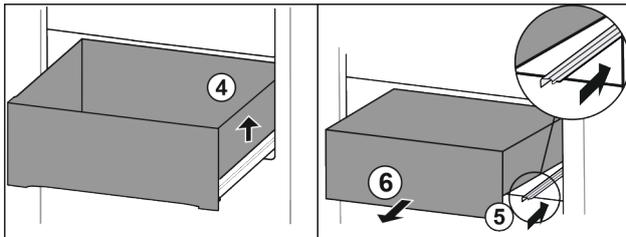

Fig. 32
- ▶ Lift drawer on the right. Fig. 32 (4)
- ▶ Insert right rail. Fig. 32 (5)
- ▶ Remove drawer to the front. Fig. 32 (6)